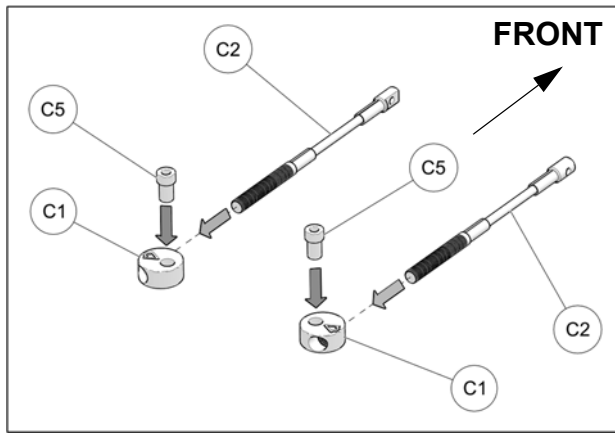

Fig. 19
10. Assemble steering limiter cables (C2), aluminum disks (C1) and step spacers (C5) together as shown on Fig. 19